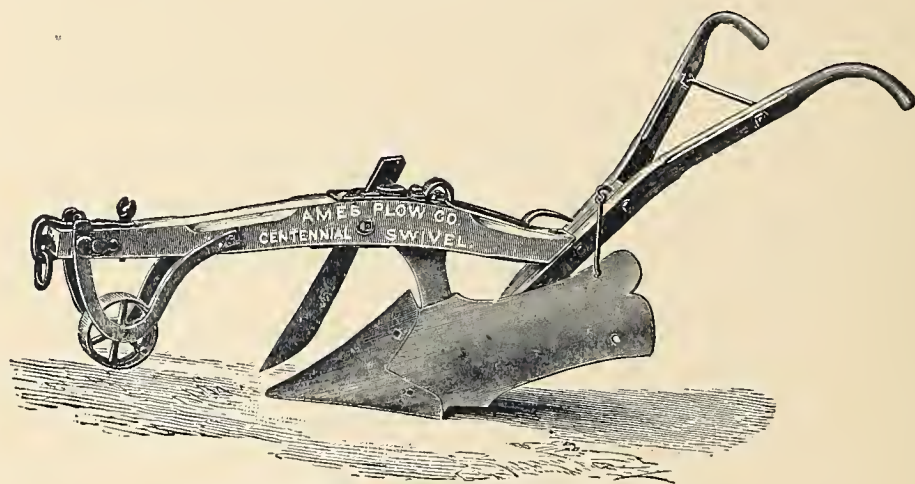

Fig. 276. — Centennial Swivel Plow.
*Ames Patent Chilled Centennial Swivel (Turn-Wrest) Plow*, shown by *Figs. 276 and 277*, is now considered not only the best implement of the kind that has been invented, but as having worked an important revolution in plowing and in the structure of plows, to the lasting benefit of farming.
or cutting-edge of the share being thrown past the centre of the beam as the plow is turned to the right or left, it becomes necessary, when a cutter is used, that it be moved from right to left, and *vice versa*, as the plow is changed, so that it shall be as nearly as possible on a line with the landside of the share, same as on a Landside Plow. This is provided for by a Movable Cutter, as shown in *Fig. 276*, worked by a lever, which may be quickly shifted as the plow is reversed. Thus this SWIVEL Plow possesses a combination of advantages which has recommended it to universal adoption;